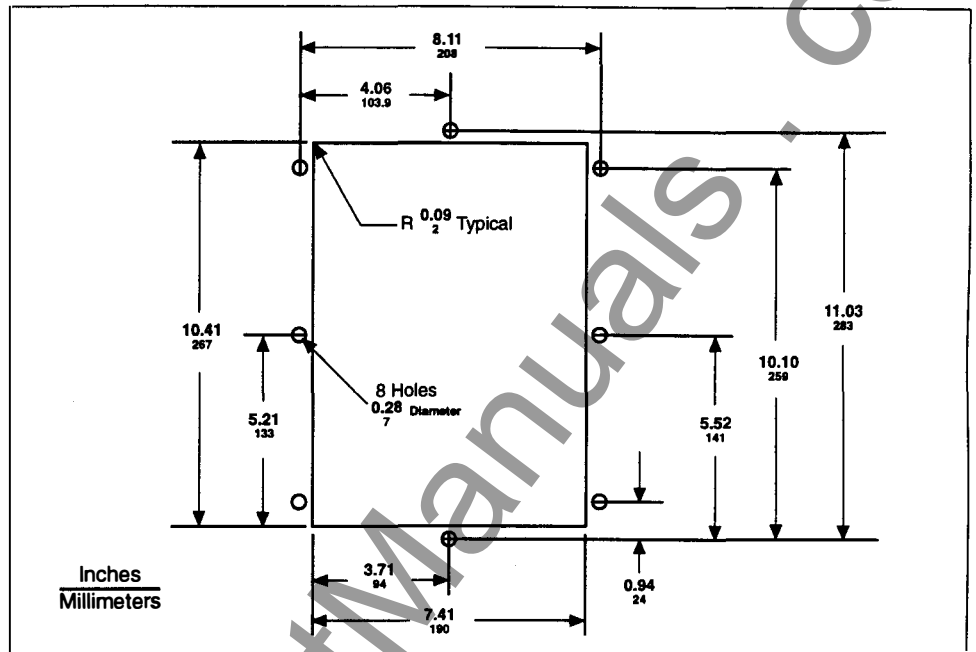

Figure 3-1: Panel preparation
1. Prepare the cutout and mounting holes. Refer to Figure 3-1 for exact dimensions.